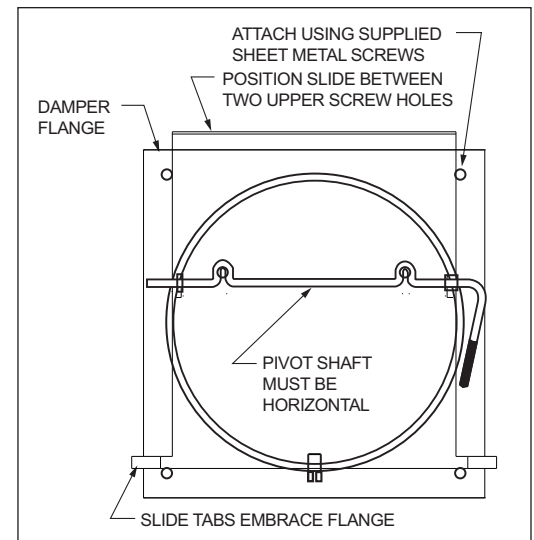

Figure 2
**CAUTION:** Unit must be mounted on a vertical surface. Level the template horizontally by marking a line onto the plenum using a level. Then apply the edge of the template on this line. (See Figure 2)
3. After allowing template to dry, drill (4)  $\frac{1}{8}$ " diameter holes at the location indicated on the template. Also, drill 4 or 5 holes along the cutting line of the  $6\frac{1}{8}$ " diameter hole indicated on the template to allow for a starting hole for cutting. Then cut hole with metal shears.
4. Make sure the adjustment slide is in place on the damper flange (see Figures 2 & 3) and all the way down onto the flange with the slide sandwiched between the damper flange and mounting surface. Attach the make-up air damper using supplied sheet metal screws or other suitable fasteners, making sure the adjustment slide is between the upper two screws. Leave the screws slightly loose to allow for adjustment.